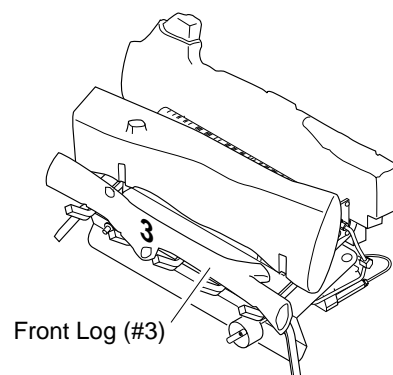

Figure 37 - Installing Front Log
3. Place front log (#3) into place in front of bottom mid log (#2) (see Figure 37). Make sure notches on bottom rest on grate prongs.